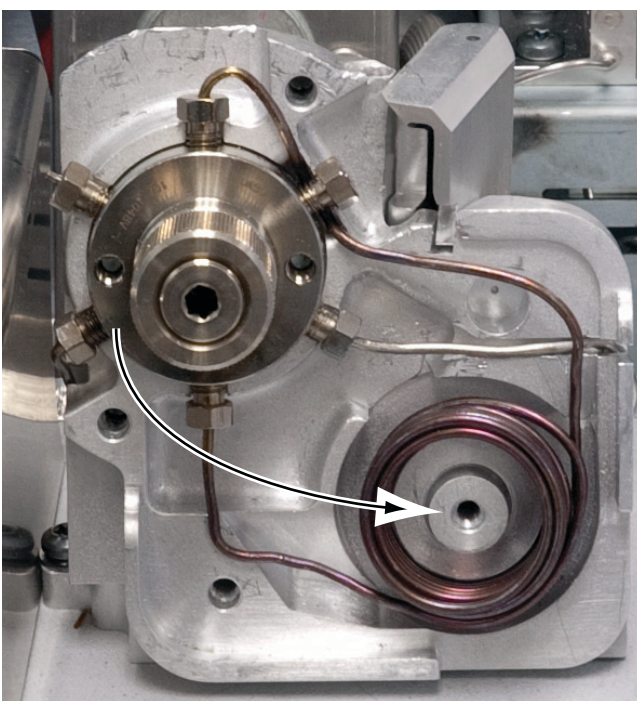

Figure 29 Rotate the sample loop into place
- 14** With the sample loop in front of the 6 port valve, connect both ends of the new sample loop to positions 1 and 4 as shown in Figure 29.
- 16 Rotate the sample loop towards the sample loop block (to the right). Fit the upper end of the sample loop over and behind connection 5 on the valve. Continue rotating the sample loop until it fits into the recessed fitting in the sample loop block as shown in Figure 29.